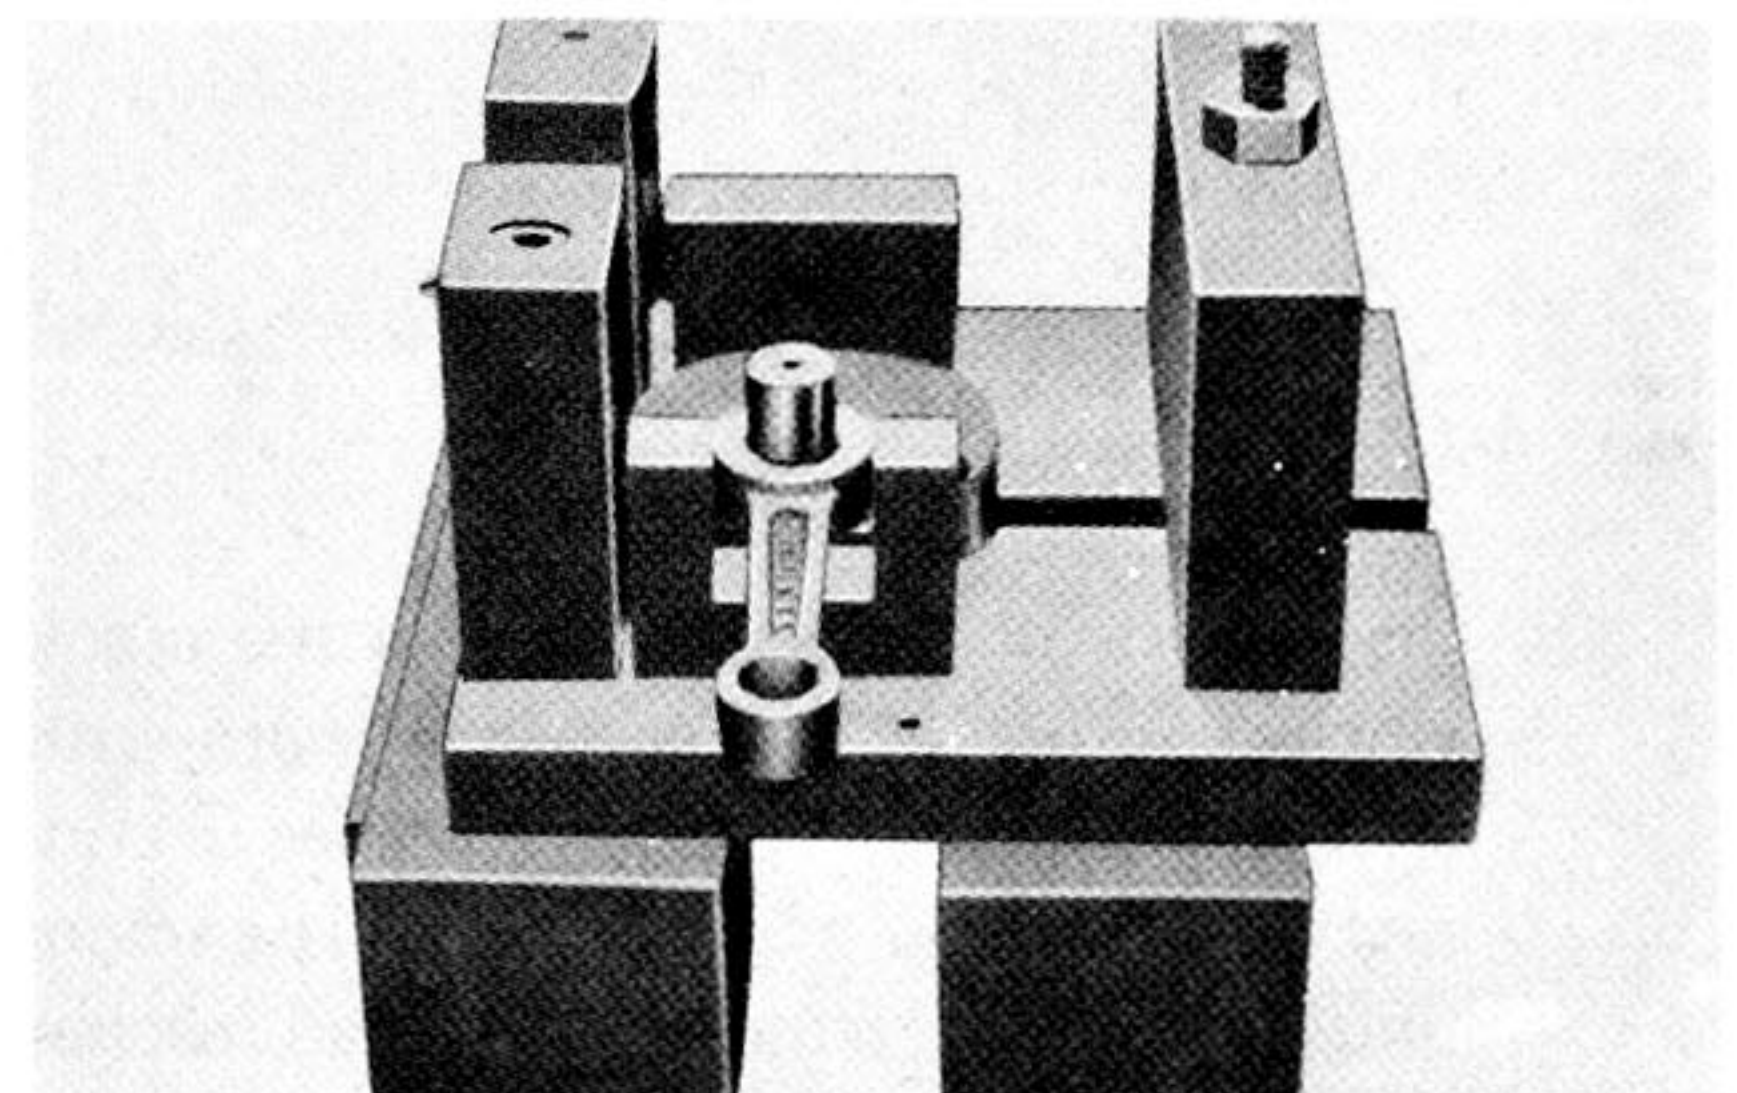

Fig. 4-17-13
(2) Press the crank pin into one crank wheel, and position the crank wheel in Tool No.1 Then install the connecting rod on the shaft. (Fig. 4-17-13)